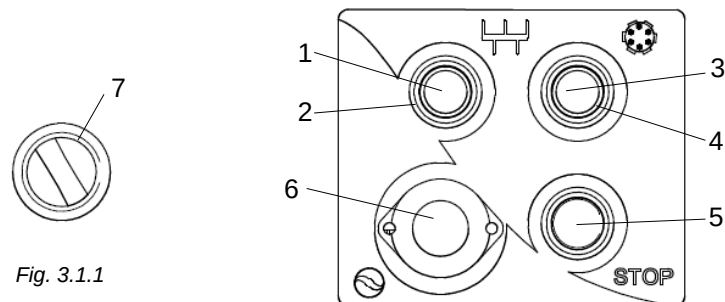

Fig. 3.1.1
Connect the plug to the mains and press the start button (3 Fig. 3.1.1). The machine gets enable in extruding mode; ensure the spiral direction of rotation is counter-clockwise.
5.3 - Checking the effectiveness of the emergency button (5 fig. 3.1.1)
When machine is connected to the mains and tools are in movement, press the shut down button (5 Fig. 3.1.1). The machine must shut down.
5.4 - Machine start up (1 or 3 fig. 3.1.1)
After having properly connected the machine to the mains, push the mixing button (1 Fig. 3.1.1) or push the extruding button (3 Fig. 3.1.1), to have the machine started up.
5.5 - Machine shut down (fig. 3.1.1)
TO shut down the machine, push the shut down button, "5" Fig. 3.1.1.
- Start the machine in mixer mode by means of the button "1" (Figure 3.1.1)
- Start the motor fan by means of the air vent switch "7" (Figure 3.1.1)
- Start mixer button (1 fig. 3.1.1)
When the button is pressed, the LED gets lit (2 fig. 3.1.1) and it will remain so throughout the mixing process.
- Start extruding button (3 fig. 3.1.1)
The pasta will start being extruded. When the button is pressed, the LED gets lit (4 fig. 3.1.1) and it will remain so throughout the extruding process.